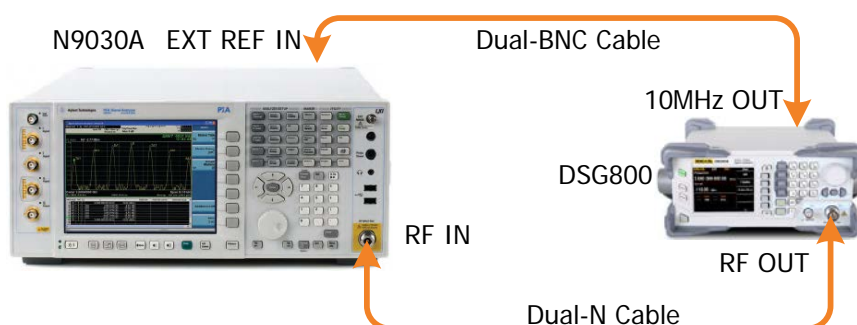

Figure 2-5 FM Test Connection Diagram
1. Synchronize DSG800 and the signal analyzer. Connect the RF output terminal of DSG800 with the RF input terminal of the signal analyzer as shown in Figure 2-5.